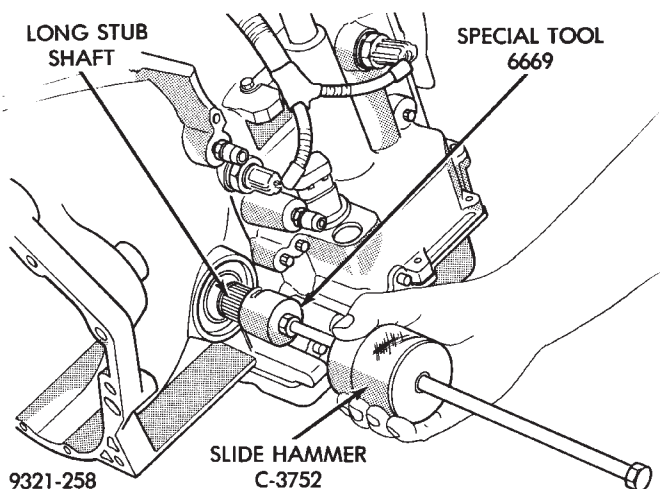

Fig. 50 Long Stub Shaft Removal
(1) Remove transaxle from vehicle. Refer to Transaxle Removal and Installation procedure in this section.
(2) Remove long stub shaft from transaxle (Fig. 50).